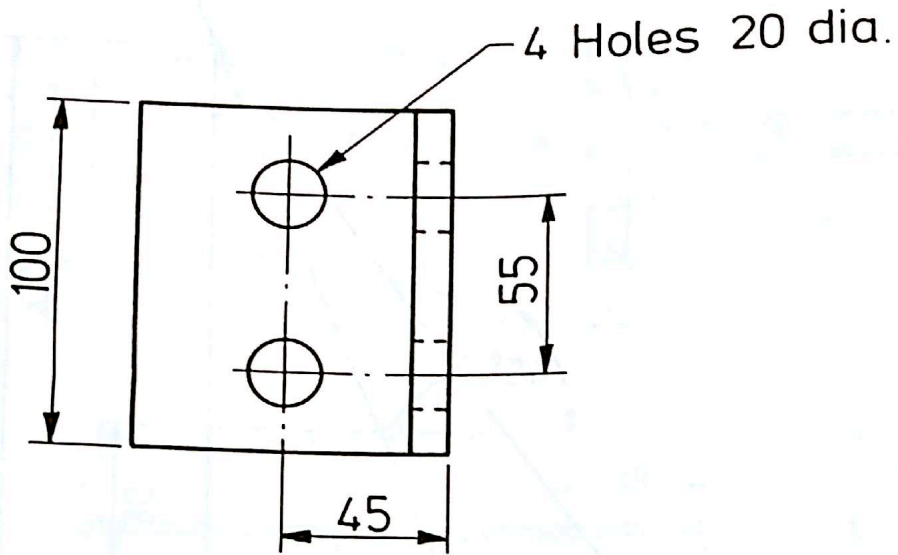

Fig. 4. Fíor 4.
4. An elevation of an angle cleat 75 x 75 x 10 is shown in Fig. 4. Two cleats are used for a beam to beam bolted connection.